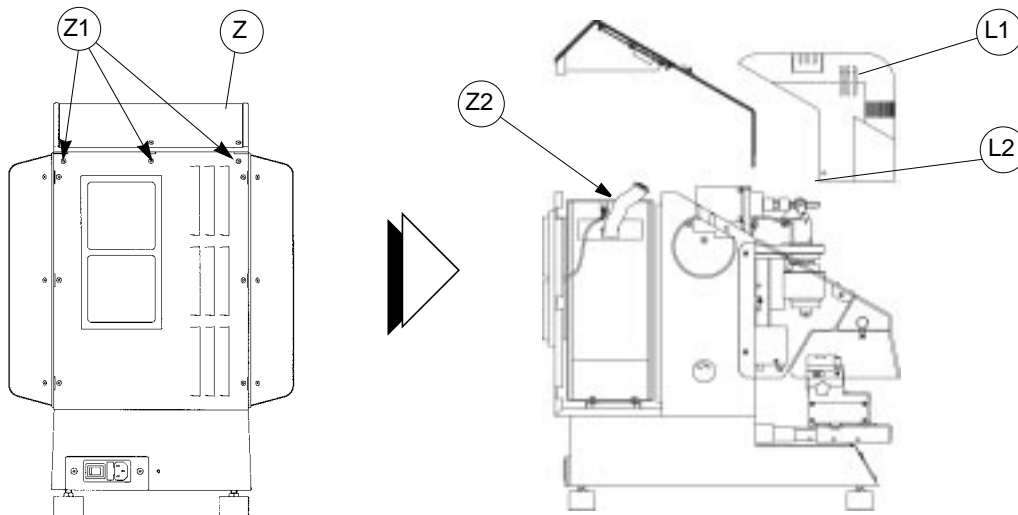

Fig. 25
- 1) loosen the 2 side screws (L2) and remove the belt cover (L1) by pushing upwards (fig. 25);
- 2) loosen the seven fixing screws (Z1), remove the top cover (Z) and push upwards, making sure the keypad wiring (Z2) is detached (fig. 25);